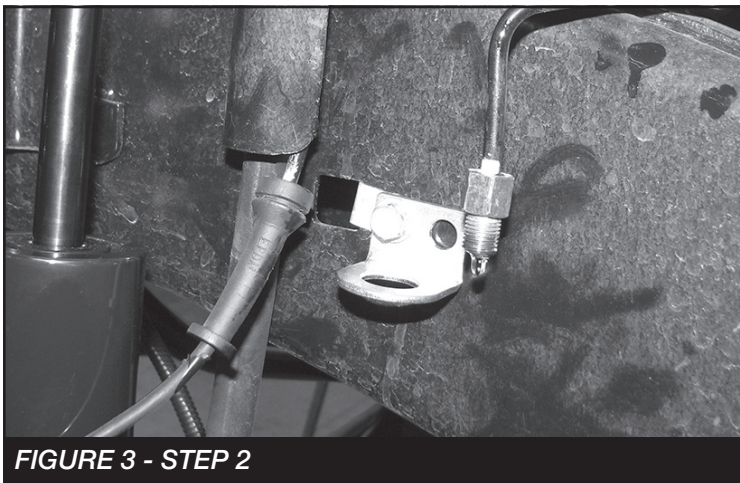

FIGURE 3 - STEP 2
2. Install the supplied brake line bracket in the factory location using the factory bolt. **SEE FIGURE 3**